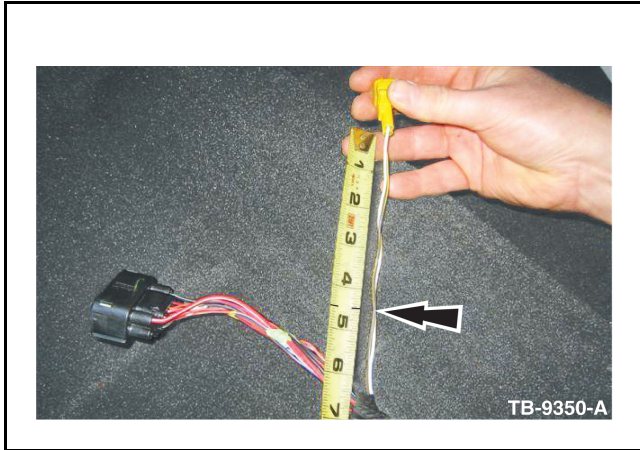

Figure 4 - Article 09-8-7
3. Remove the existing connector from the harness by cutting the harness wires 4.5" (11.4 cm) back from the connector body. (Figure 4)